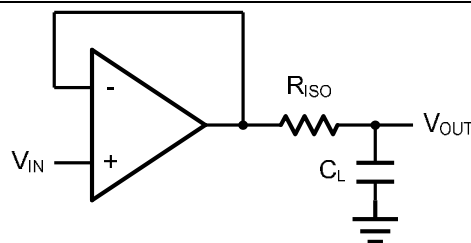
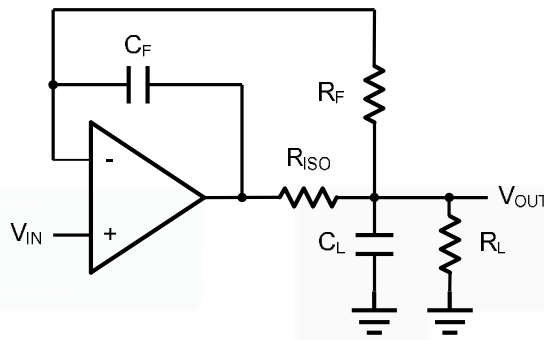

Figure 2. Indirectly Driving a Capacitive Load Using Isolation Resistor
Figure 3. Indirectly Driving a Capacitive Load with DC Accuracy
The GS100X family is optimized for bandwidth and speed, not for driving capacitive loads. Output capacitance will create a pole in the amplifier's feedback path, leading to excessive peaking and potential oscillation. If dealing with load capacitance is a requirement of the application, the two strategies to consider are (1) using a small resistor in series with the amplifier's output and the load capacitance and (2) reducing the bandwidth of the amplifier's feedback loop by increasing the overall noise gain. Figure 2. shows a unity gain follower using the series resistor strategy. The resistor isolates the output from the capacitance and, more importantly, creates a zero in the feedback path that compensates for the pole created by the output capacitance.
The circuit in Figure 3 is an improvement to the one in Figure 2. R_F provides the DC accuracy by feed-forward the V_{IN} to R_L . C_F and R_{ISO} serve to counteract the loss of phase margin by feeding the high frequency component of the output signal back to the amplifier's inverting input, thereby preserving the phase margin in the overall feedback loop. Capacitive drive can be increased by increasing the value of C_F . This in turn will slow down the pulse response.